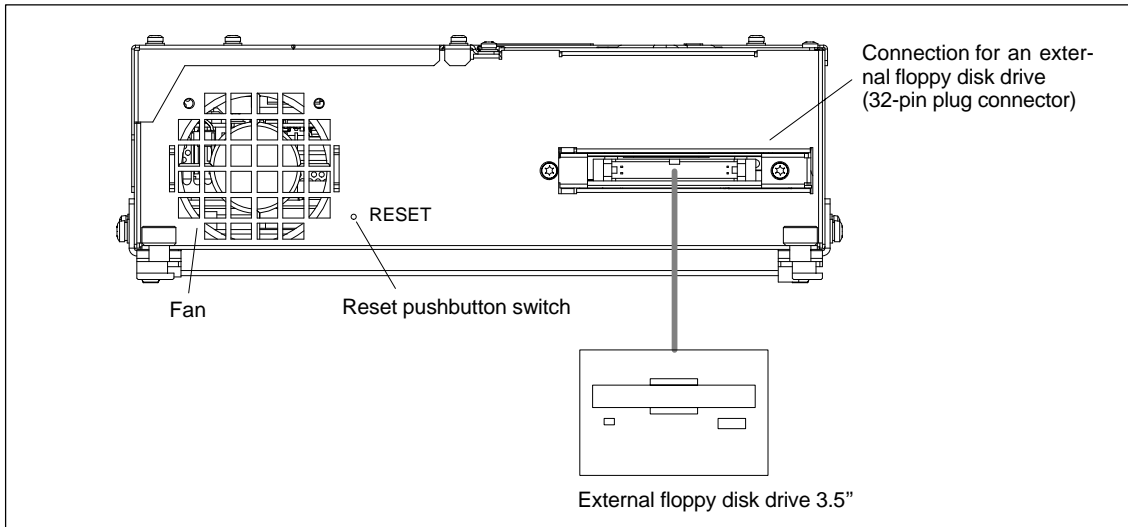
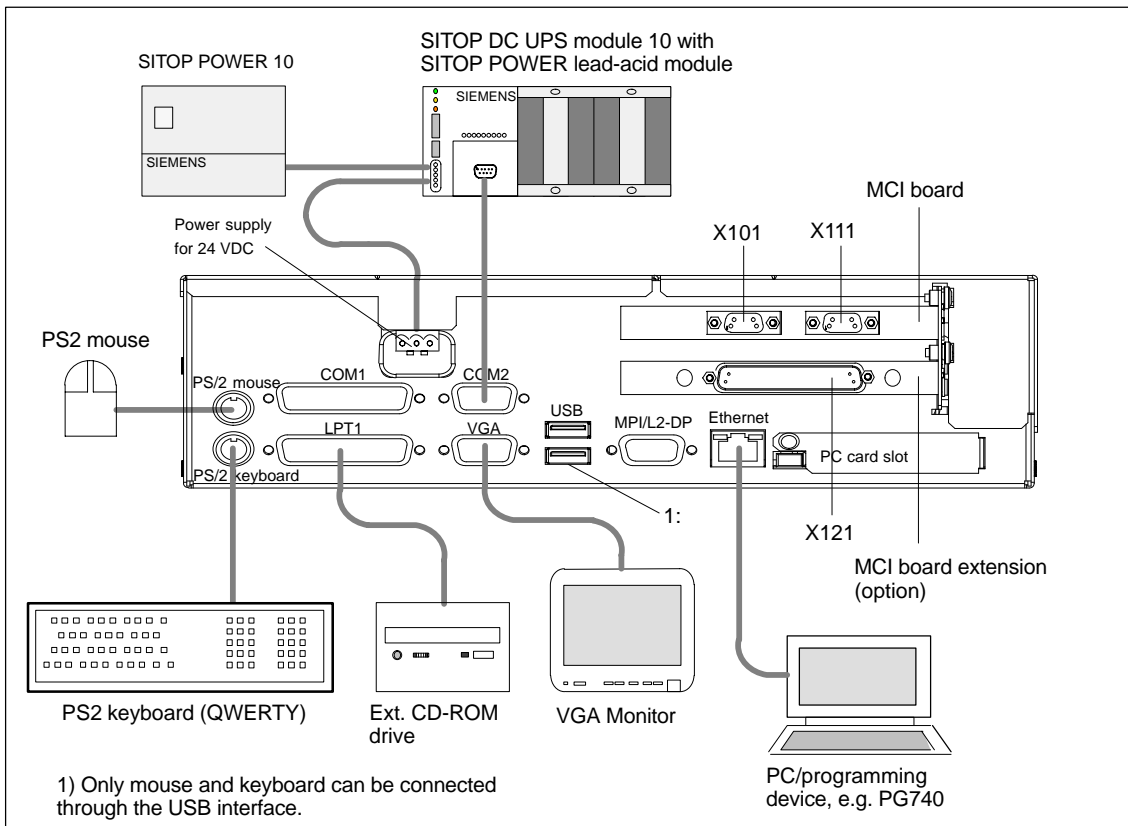

Fig. 3-6 SINUMERIK 840Di PCU 50, left housing side
Fig. 3-7 SINUMERIK 840Di PCU 50 (right housing side)
5) For an overview of the standard PC interfaces, see Fig. 3-6, page 3-129 and Fig. 3-7, page 3-129.